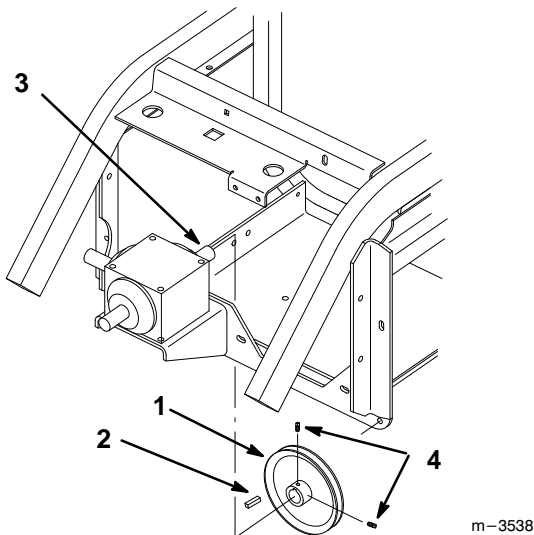

Figure 4
1. Apply thread lock to (2) pulley setscrews (Fig. 4).
2. Slide key and pulley, with setscrews toward gearbox, onto PTO gearbox rear output shaft (Fig. 4). Do not tighten (2) setscrews at this time.